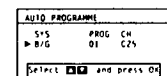

Fig. 4.
- Select Auto Programme with  $\Delta$  or  $\nabla$  and press OK. The AUTO PROGRAMME menu appears. (See Fig. 4.)